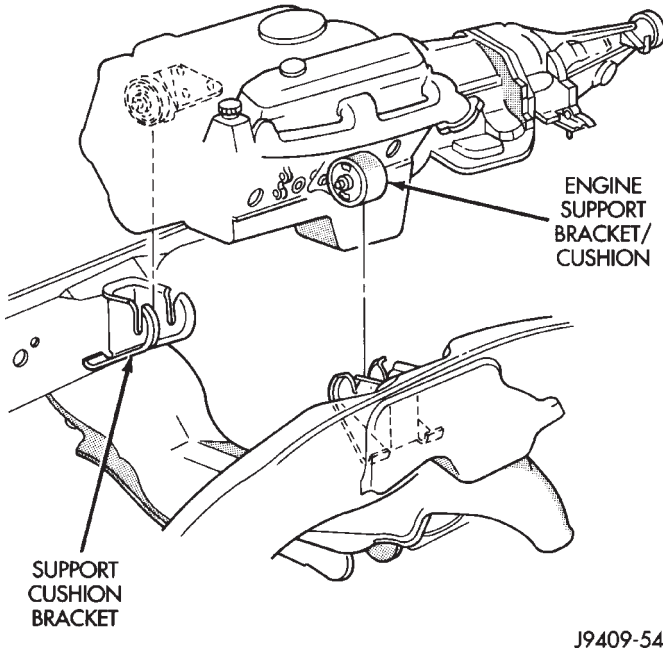

Fig. 15 Positioning Engine Front Mounts
(2) Install the thru-bolt into the engine support bracket/cushion.
(3) Lower engine with support/lifting fixture while guiding the engine bracket/cushion and thru-bolt into support cushion brackets (Fig. 15).